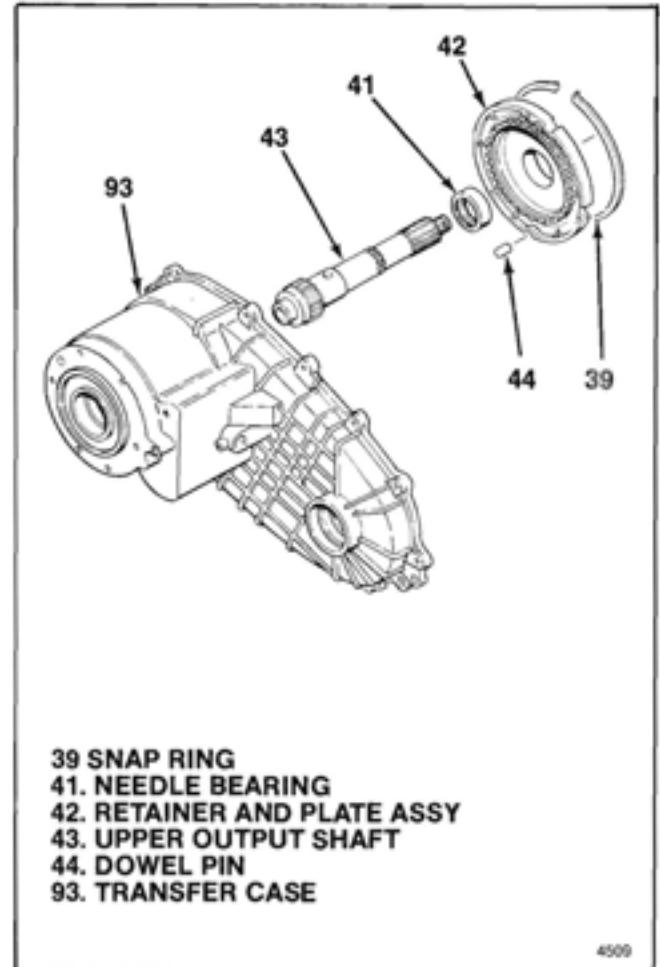
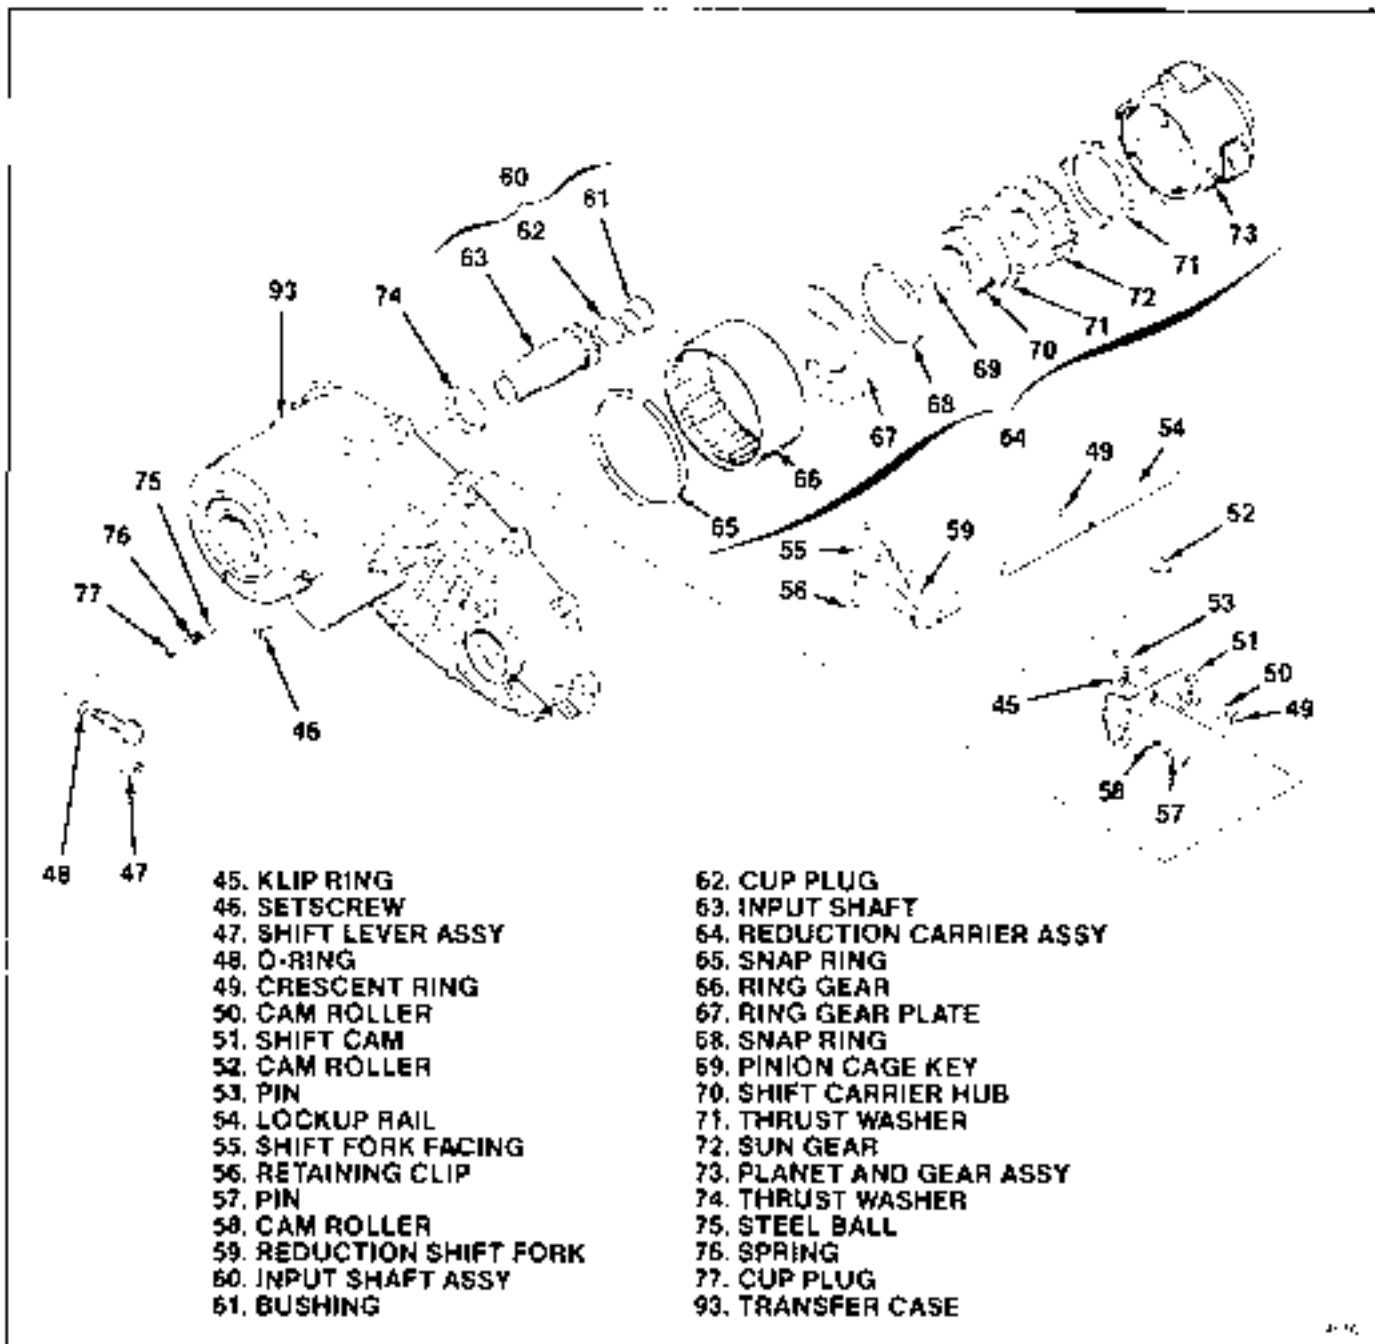

Figure 3-6. Retainer and Upper Output Shaft
Figure 3-7. Reduction Shift, Carrier and Input Shaft Parts
**3-12. REMOVAL OF RETAINER AND UPPER OUTPUT SHAFT.** From remaining transfer case assembly (39 through 93), remove the following (see figure 3-6):
- a. Remove snap ring (39) from groove in transfer case (93) just above retainer and plate assembly (42).
- b. Grasp upper output shaft (43) and pull up while tapping transfer case (93) with plastic mallet to free retainer and plate assembly (42). Separate upper output shaft from retainer and plate assembly.
- c. Pull needle bearing (41) from retainer and plate assembly (42).
- d. Remove two dowel pins (44) used to locate retainer and plate assembly (42) to transfer case (93).
**3-13. REMOVAL OF REDUCTION SHIFT, CARRIER AND INPUT SHAFT PARTS.** From remaining transfer case assembly (45 through 93), remove the following (see figure 3-7):
- a. Reach into transfer case (93) and remove clip-ring (45) that attaches shift cam (51) to shaft of shift lever assembly (47).
- b. Remove setscrew (46) and shift lever assembly (47). Remove o-ring (48) from shaft of shift lever assembly.